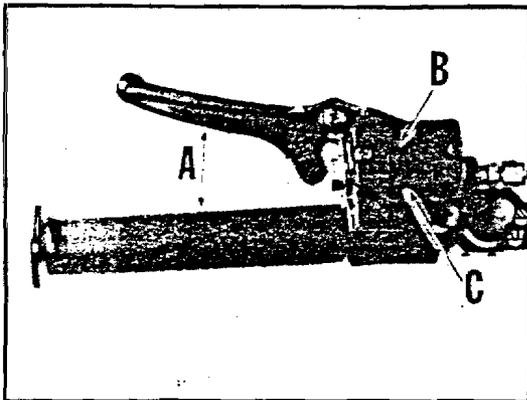

Figure 1
At reasonably frequent intervals, the brakes should be inspected for brake lever reserve. This is done by measuring the clearance between the lever and handlebar grip. Inspection should be made with the lever firmly depressed. Lever reserve should not be less than 1/2" (A) (figure 1).
2. Fluid Reservoir – If master cylinder reservoir is empty or low, remove cover (B) (figure 1), add fluid as required to bring level 1/8" below lip of reservoir opening.